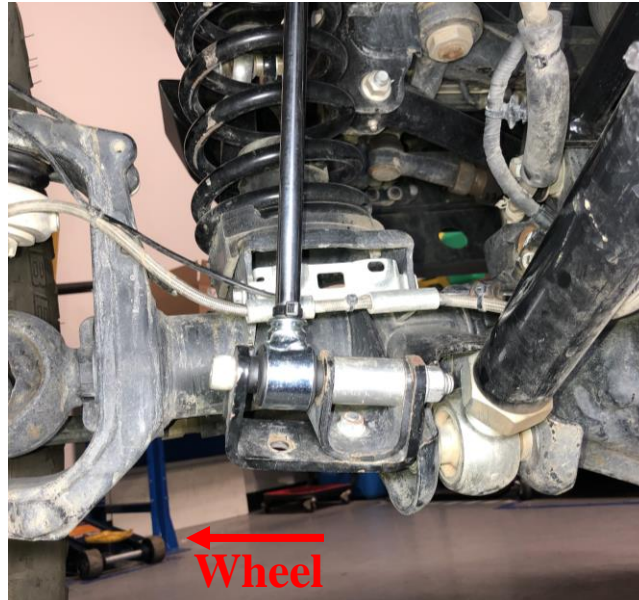

Figure 11 – Driver side bottom mount
- R. Place the spacer in between the flanges of the OE mount. Then position the shock's lower mount outside of the OE mount as shown in Figure 11. Secure it with the M12 bolt and nut.